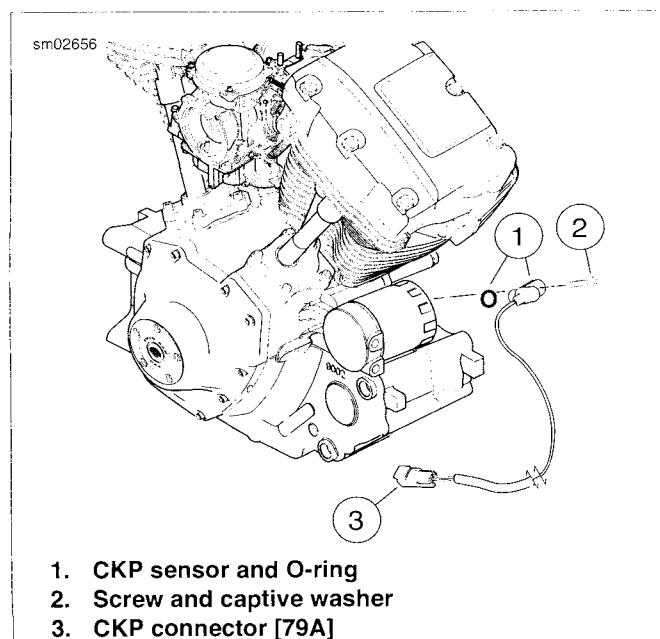

Figure 7-56. CKP Sensor Assembly
- b. See Figure 7-56. Disconnect the 2-place Mini-Deutsch CKP connector [79A] (3).
4. Remove screw and captive washer (2) to detach CKP sensor and o-ring (1) from crankcase. Carefully remove crank position sensor.
1. See Figure 7-56. Lubricate CKP sensor o-ring (1) with clean engine oil.